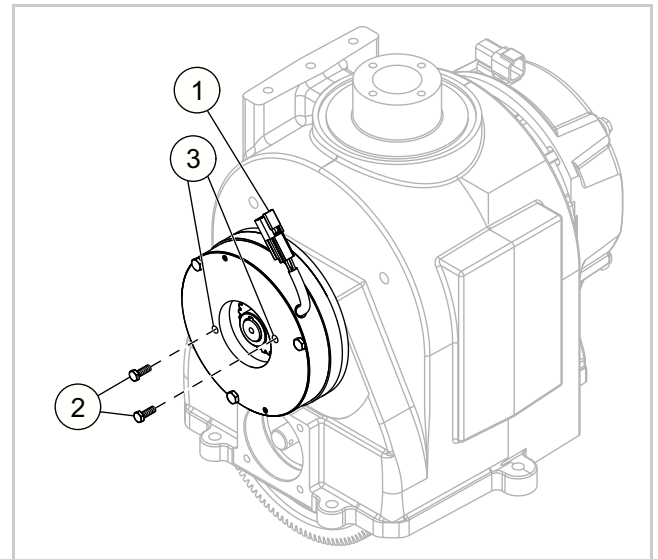

Fig. 7 (23061-01)
2. Disconnect the parking brake at CA404 (index 1, Fig. 7).